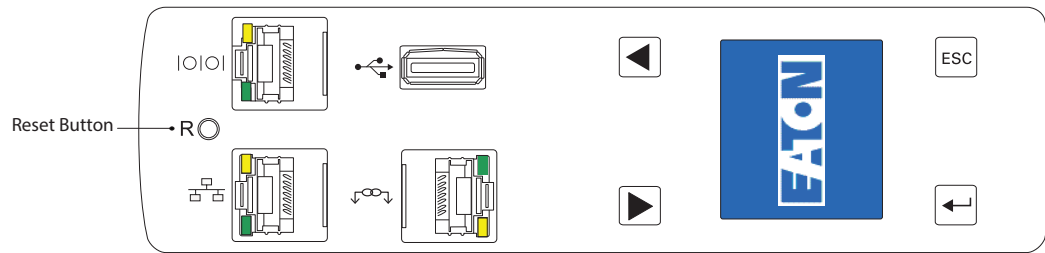

Figure 36. Reset Button
- 3. After 10 seconds, use the reset button to restart the eNMC module and apply the new settings (see Figure 36).